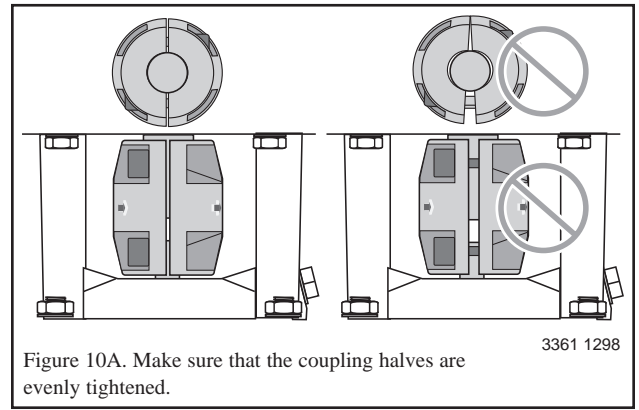
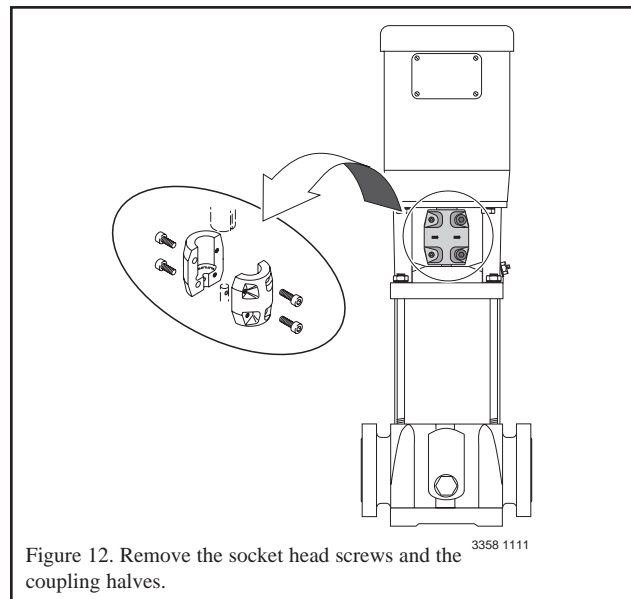

Figure 10A. Make sure that the coupling halves are evenly tightened.
Figure 12. Remove the socket head screws and the coupling halves.
3. Remove the coupling guards (4) by prying them loose with a screwdriver.
4. Remove the socket head screws (3) and the coupling halves (2) from the shaft (16A). For additional reference, see Figure 12.
5. Remove the shaft pin (5).
6. Remove the capscrews (12), flatwashers (10), and lockwashers (11) that hold the motor (1) and the motor bracket (7) together.
10. Lubricate the capscrews (12) with oil.
12. Reinstall the shaft pin (5) in the shaft.
13. Reinstall the coupling halves (2) on the pump and motor shaft. Make sure to engage the shaft pin (5).
14. Snug up the socket head screws (3) until the coupling begins to bind and then loosen 1/2 turn.
15. Draw up the capscrews evenly so the gap between the coupling halves is equal on both sides (see Figure 10A).